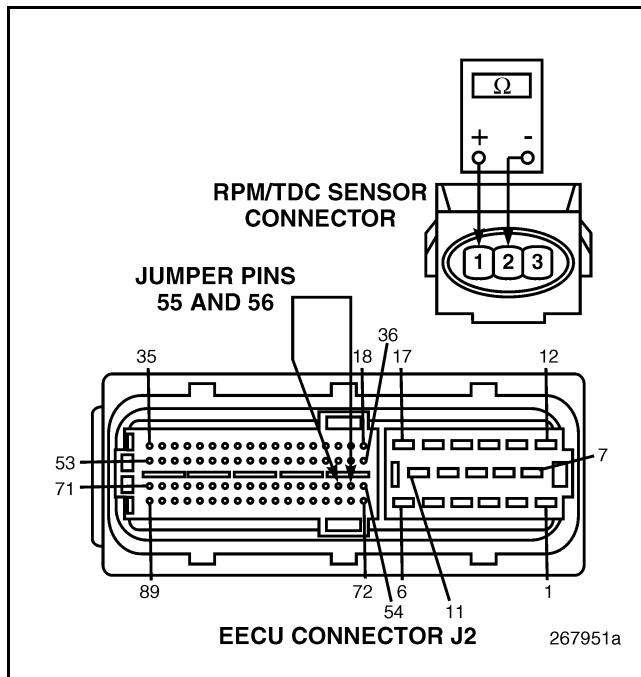

Figure 374
5. Check for continuity between pins 1 and 2 on the harness side of the Engine Speed/Timing (RPM/TDC) Sensor connector (see Figure 374).